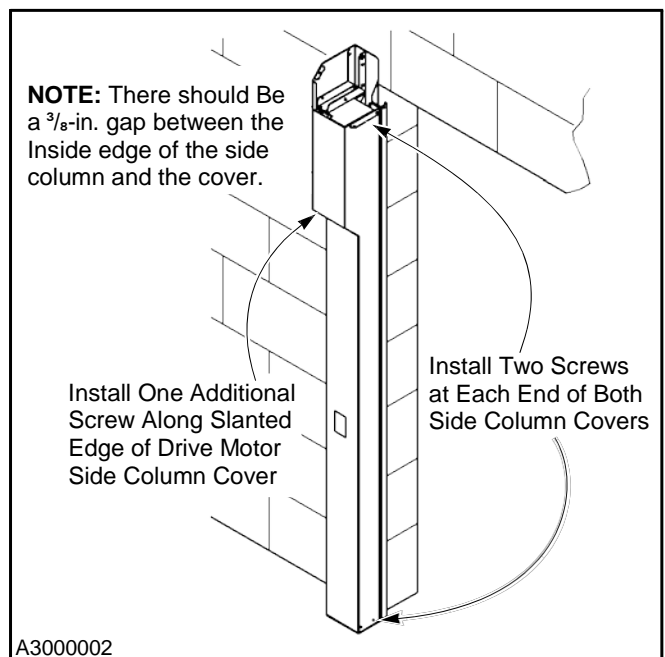

Figure 37
2. Install two screws in the top and bottom ends of each cover. Then install one additional screw in the drive motor side column cover, along the slanted edge of the cover. (See Figure 37.)